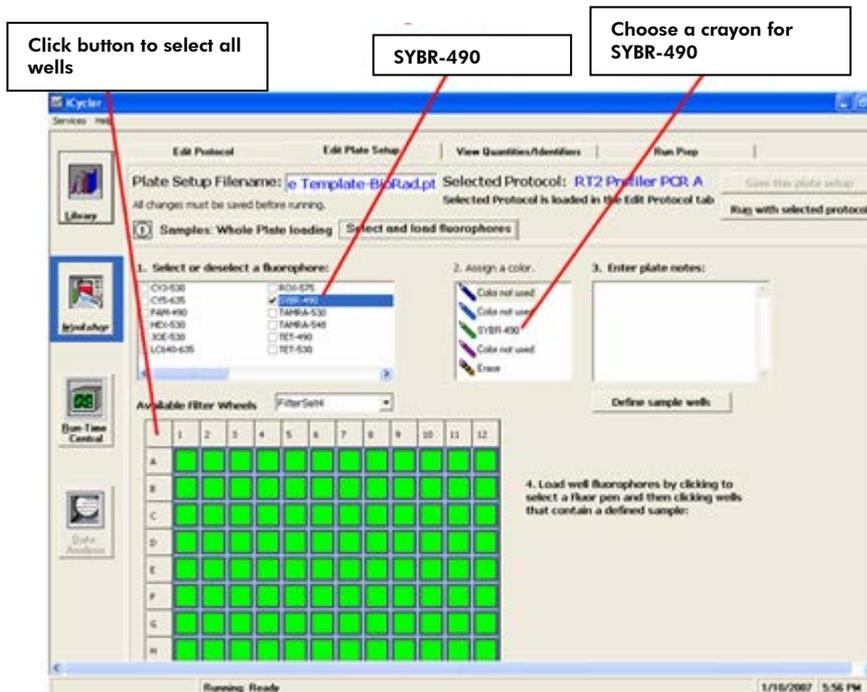

Figure 3. Plate setup — fluorophore loading.
4. When finished loading samples, click on “Select and Load Fluorophores” (see Figure 3). Select “SYBR-490” as the fluorophore by clicking the box next to the fluorophore in the “Select or Deselect a Fluorophore” box. Assign a color for SYBR-490 by clicking on one of the crayons. With the “SYBR-490” crayon selected, load fluorophore to all wells by clicking the top left corner of the plate to select all wells at once. Enter “CopyNum PCR Array Plate Setup Template” as the new filename in the “Plate Setup Filename” box and click “Save this plate setup” to save the file as a \*.pts file.